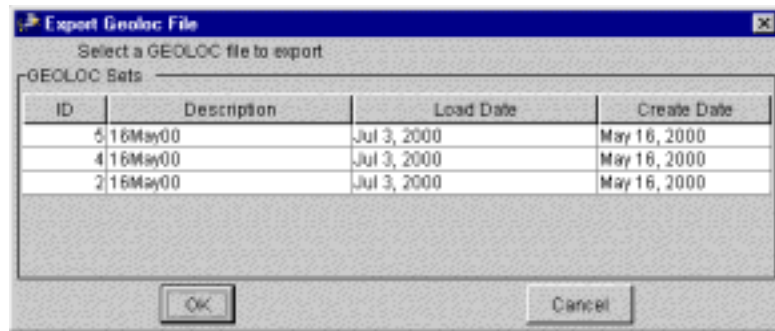

Figure 5.178 Export Geoloc File Window
1. On the ETEdit (main) window, on the Reference menu, click GEOLOC FILE>Export GEOFILE (ELIST format). The Export Geoloc File window opens (Figure 5.178).